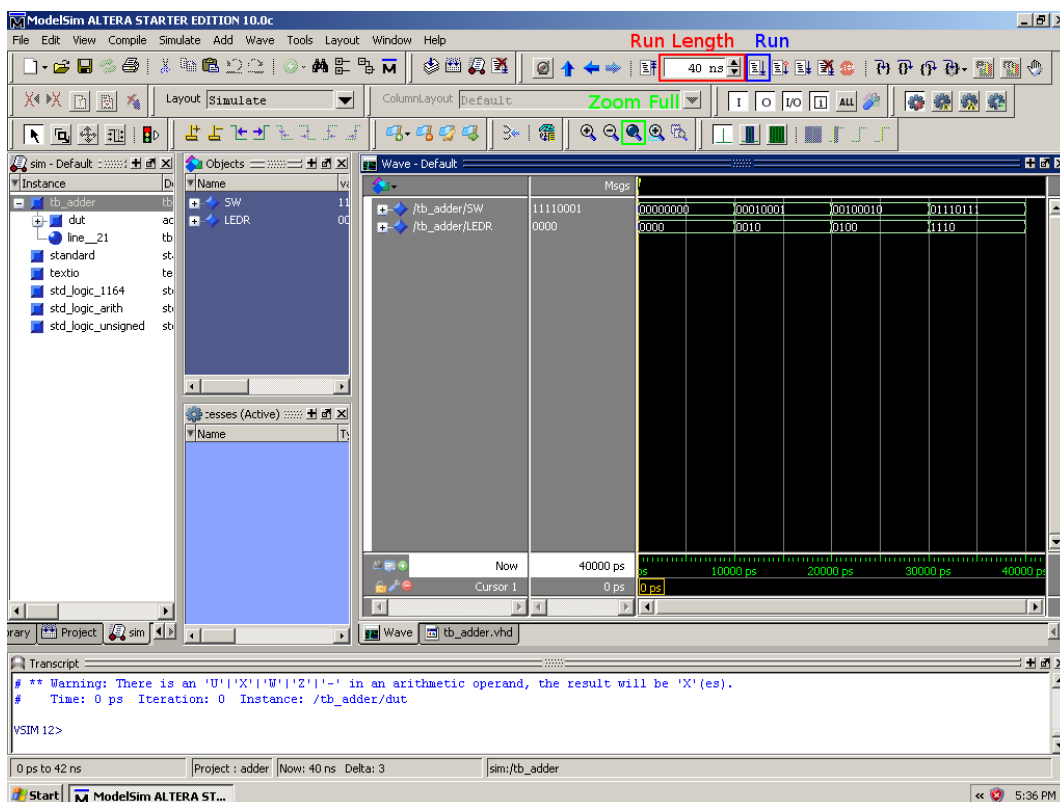

Figure 9: Running a simulation in ModelSim
Change the Run Length to “40 ns”, and then click the “Run” button to its right. Now select the “Wave” window by clicking anywhere in the waveform viewer, and then click on the “Zoom Full” button to view the whole waveform at once, as in Figure 9. Study the waveforms carefully — initially, the switch inputs (SW) are all zero, and hence “0000” + “0000” gives a zero output on the LEDR. Check that the other test cases are also correct. Run the simulation again for another 40 ns, and “Zoom Full” again. What do you see?